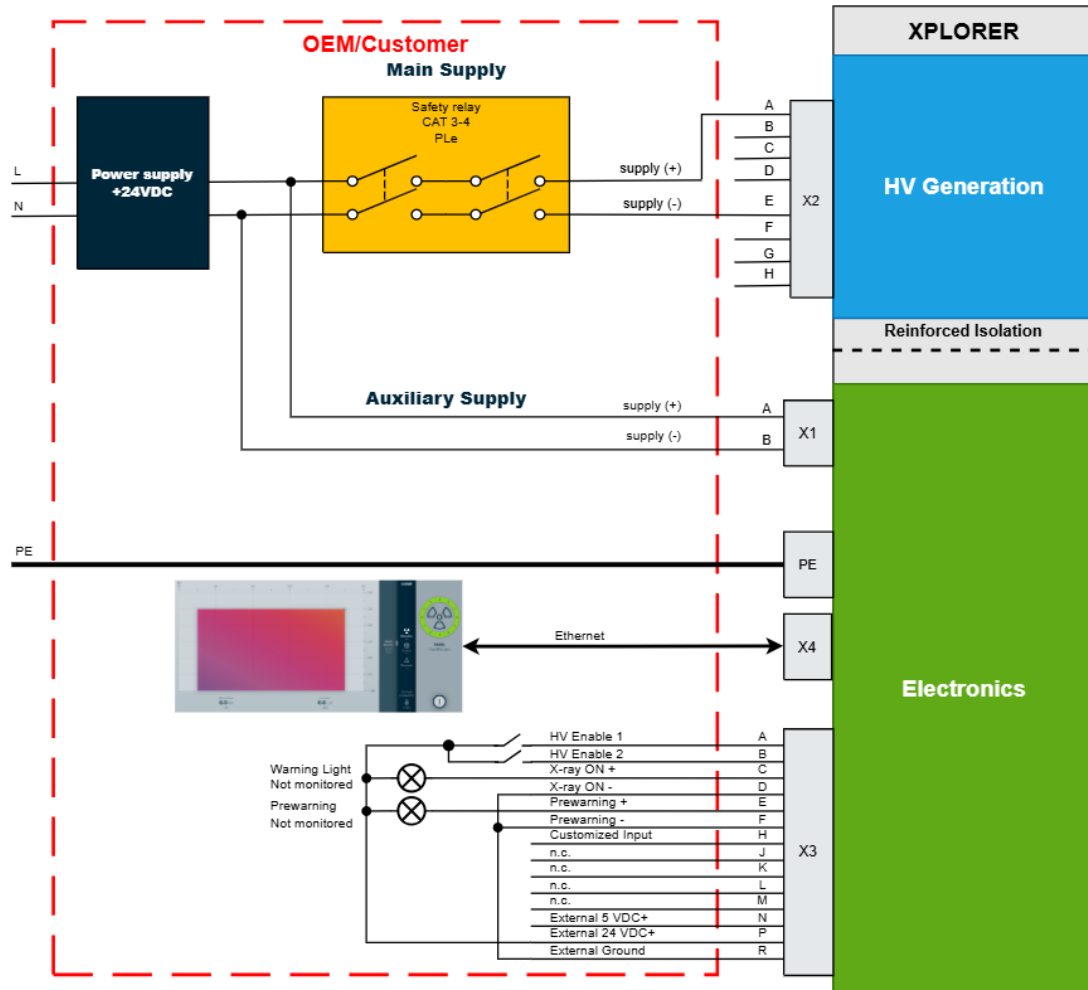

Fig. 4: Electrical Connections. See connector pinning below.
- Connect your interlock circuits to the DC Main supply connector as shown in diagram (Fig. 4:) above. Ensure that the contacts of the interlocks are compatible with a 24VDC 6A power supply.